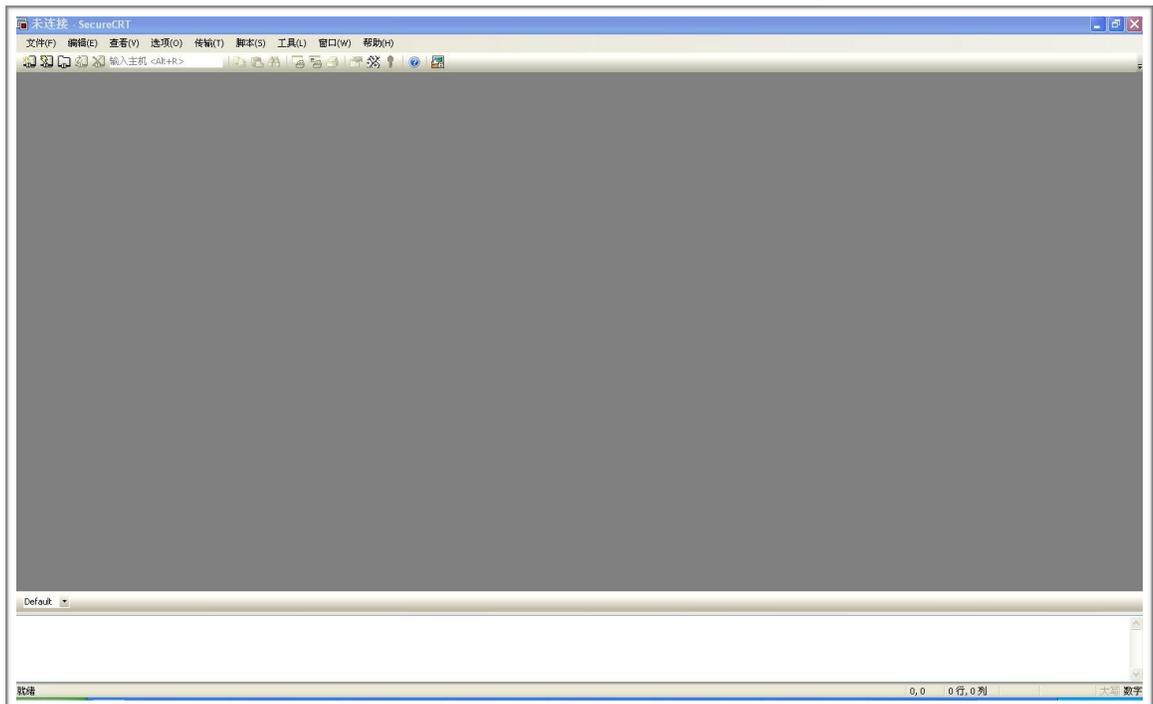

Figure 3-1. SecureCRT Main Interface
1. Double click SecureCRT.exe to open the application, the main interface will show as figure 3-1.